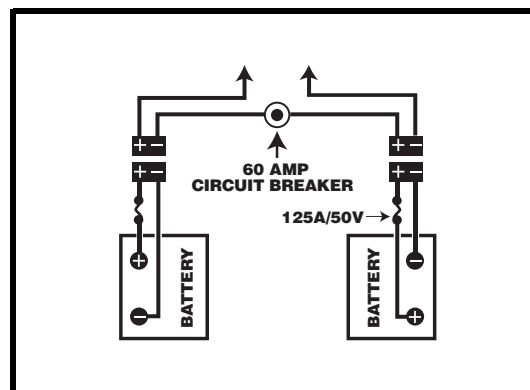

Figure 15. Battery Wiring Diagram
6. Place a new battery in each battery well. Face the battery terminals of each battery away from the seat post. See figure 15.